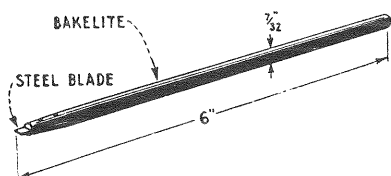

Figure 10—Dimensions of the non-metallic screw driver
- (a) Procure a long, thin, non-metallic screwdriver (See Figure 10).
A long thin non-metallic screwdriver. Such a screwdriver is shown in Figure 10 with its dimensions.